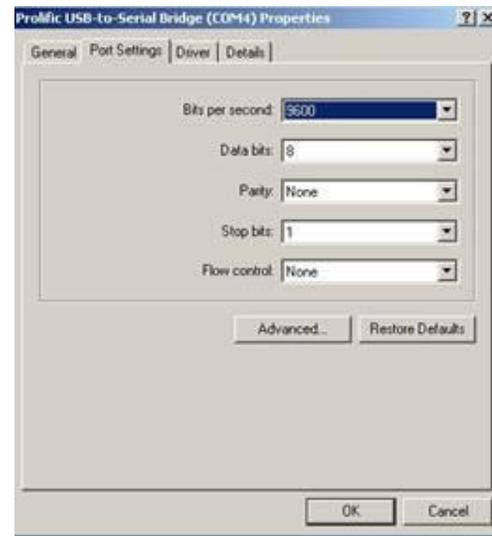

Figure 2 – Port Settings
4. If the assignment is higher than COM4, then you can force it to a lower unused port using the Advanced ... menu from the Port Settings page. To access this menu, double click on the port in Device Manager and select the Port Settings tab (see Figure 2).